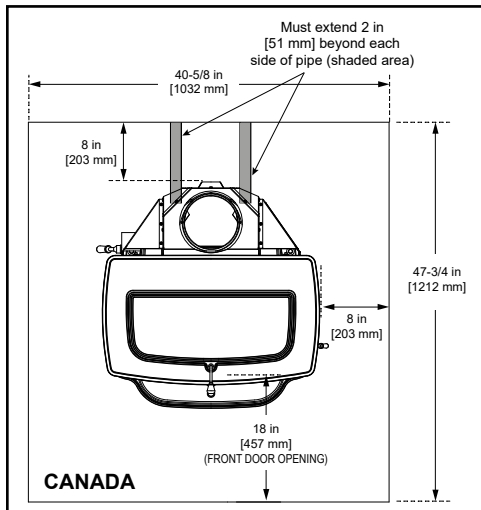

Figure 3.7
**\*EXCEPTION:** Non-combustible floor protections must extend beneath the flue pipe when installed with horizontal venting and extend 2" (51 mm) beyond each side, Figure 3.7.